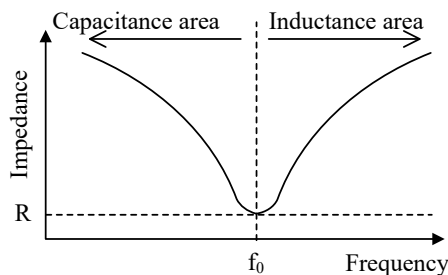

Figure 9-2. Impedance of Resonant Circuit
When the frequency, f , changes, the impedance of resonant circuit will change as shown in Figure 9-2.
When $2\pi f L = 1/2\pi f C$, $\dot{Z}$ of Equation (2) becomes the minimum value, R (see Figure 9-2). In the case, ω is calculated by Equation (3).